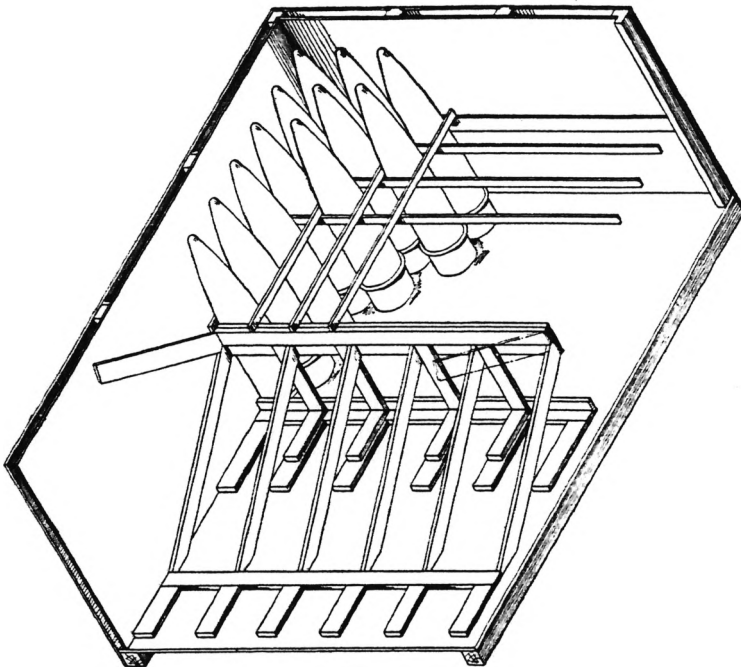

FIG. 19.—Method of packing projectiles in freight cars
(2) Figure 19 shows a satisfactory method of packing these shell in freight cars for shipment. In this method of shipment the shell should preferably be stood on their bases, and they must be properly braced to prevent excessive movement. Rows of shell should be separated by pieces of board to prevent the rotating band from being damaged should the rope grommet slip out of place. If the shell are shipped on their sides they must be separated by pieces of board, so as to prevent the shell coming in contact with each other.
*b. Chemical shell, Mk. VII and shrapnel Mk. I.*—(1) Chemical shell, Mk. VII and shrapnel Mk. I, are packed in wooden boxes for shipment, two projectiles in each box. The packing box for chemi-